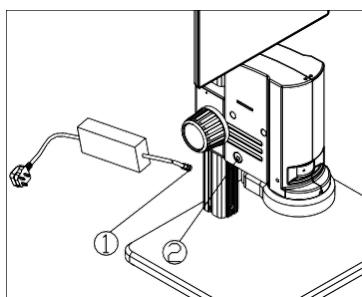

Fig. 3
- 1) Insert the external adapter plug ① into the power supply adapter socket ② near the bottom of the microscope body. (See Fig. 3)